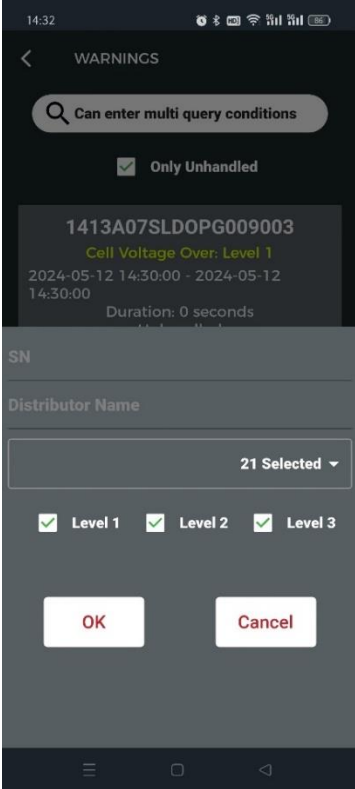
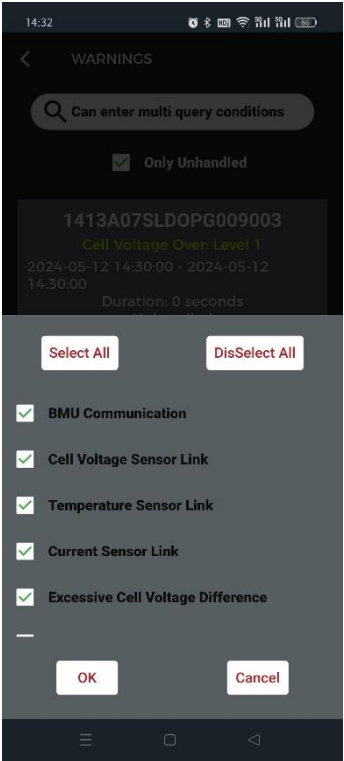

Figure 36: Alarm List Query
Figure 37: Alarm list query - Select alarm type
(1) To query alarms or faults, click the input box "Can enter multi query conditions" to open the alarm list query page in Figure 36. SN is the serial number of the battery. Both of them support fuzzy query (you only need to enter part of the character string of the information to be queried). You can select multiple alarm types on the displayed page (Alarm List query - Alarm Type Selection), as shown in Figure 37.